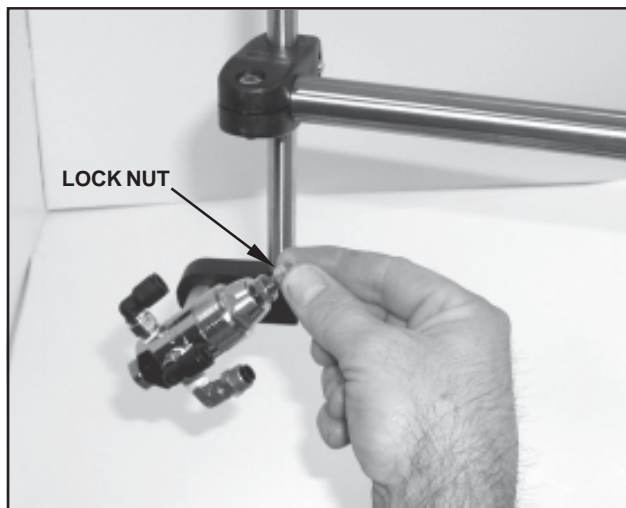

FIGURE 16
- 1- To adjust the fluid adjusting screw, use a $7/16$ " wrench and loosen the lock nut on the rear of the marker body by turning it counter-clockwise as shown in Figure 16.